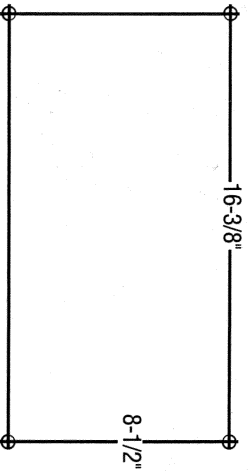

Figure 8
1. Drill four holes, 5/16" diameter minimum, through the work surface. (Figure 8)